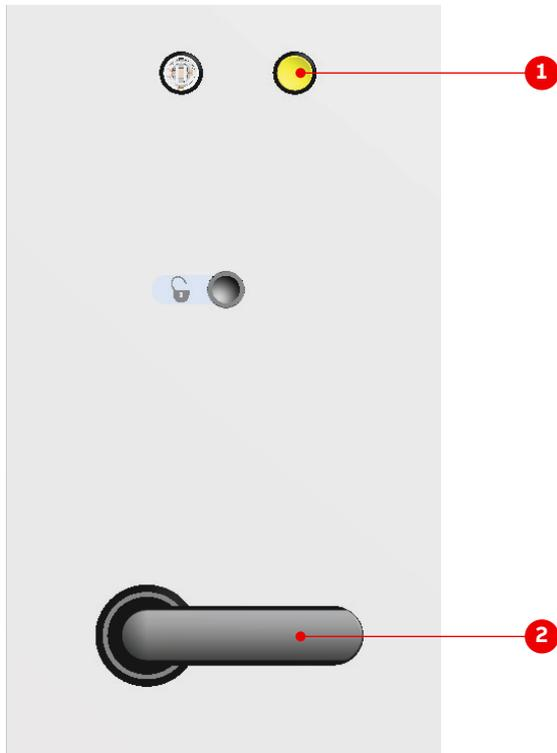

Figure 3-22 Grounding switch
- Grounding switches (Fig. 3-22)
There is one grounding switch (Fig. 3-22: 1) on each primary PCU.
Turning a grounding switch to the grounded position (horizontal) is only possible once the yellow lamp (Fig. 3-22: 2) lights up. The yellow lamp indicates that the main power supply is disconnected and the DC link has discharged.